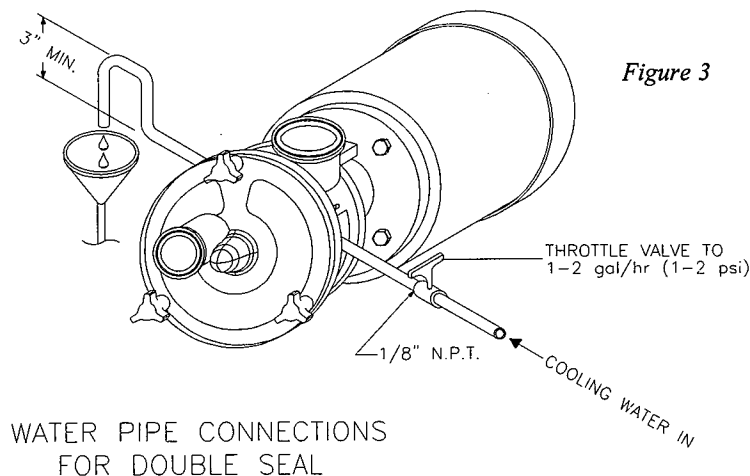

Figure 3
- Set up the water flush for the double mechanical seal (if installed). As shown in **Figure 3**. The seal flush water should be supplied at a maximum flow rate of 1-2 gph (45.42 lph) at a maximum pressure of 5 psi (.35 bar). **Excessive flow/pressure through the seal flush will cause excessive wear and shorten seal life.**